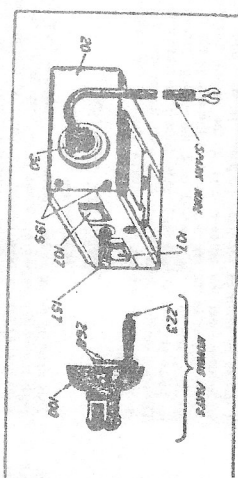

Fig. 1—Magnetos, Moving Parts Removed
Put advance lever (403) in the starting position. (See Figure II for Type No. 1 drive, Figure IV for Type No. 2 drive, and Figure VII for Type No. 3 drive). Be sure the spark wire (Figure 1), priming cup, prime engine by pouring a small amount of gasoline into the cup and letting it flow into the cylinder. If there is no priming cup, instructions accompanying engine will show how to choke air intake for same purpose. Turn flywheel in the
All moving parts (See Figure 1) can be withdrawn from the magnet by lifting the armature (100) from its magnetic contact with the cores (107). This operation does not wetten the magnets. When replacing the armature make sure that the oil (see page 137) flows over the guide rod (137).